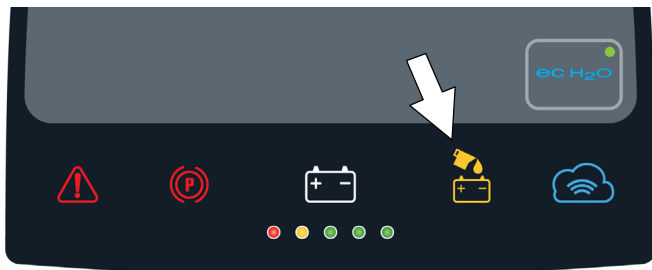

FIG. 24
- When the tank needs refilling, the automatic battery watering indicator will alert user to add distilled water (Figure 24). See CONTROL PANEL OPERATION for further details.